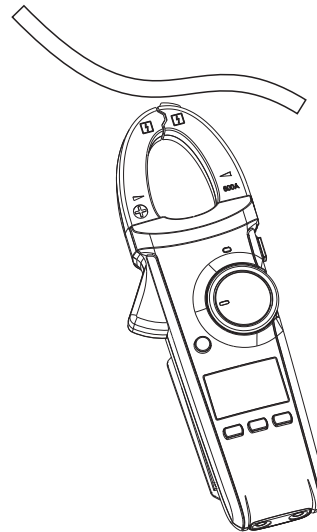

Figure 14
11. Non-contact AC voltage sensing NCV (see Figure 14)